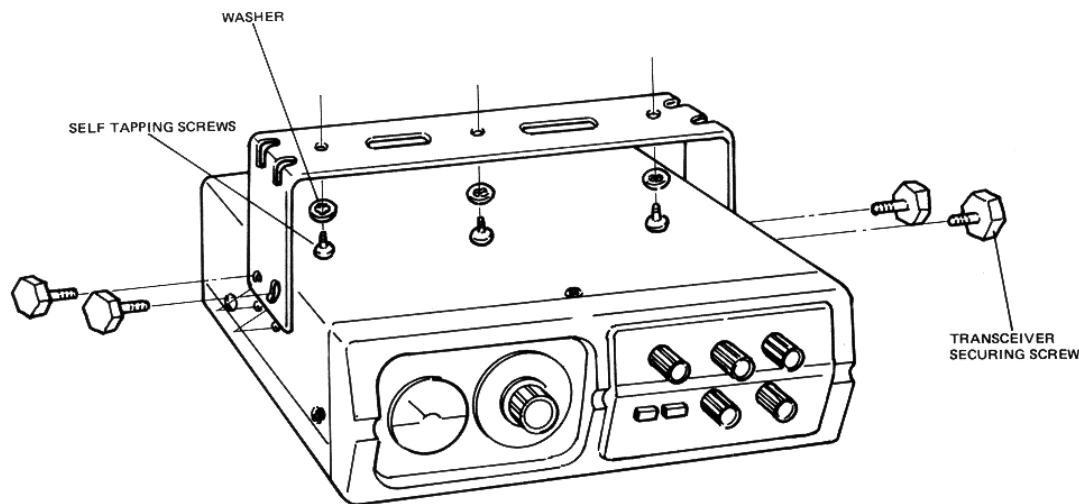

Figure 3. Mounting
1. The transceiver will be mounted as illustrated in Figure 3. First drill three or four holes (diameter about $5/32''$; 3.6 mm) in the location to be mounted.